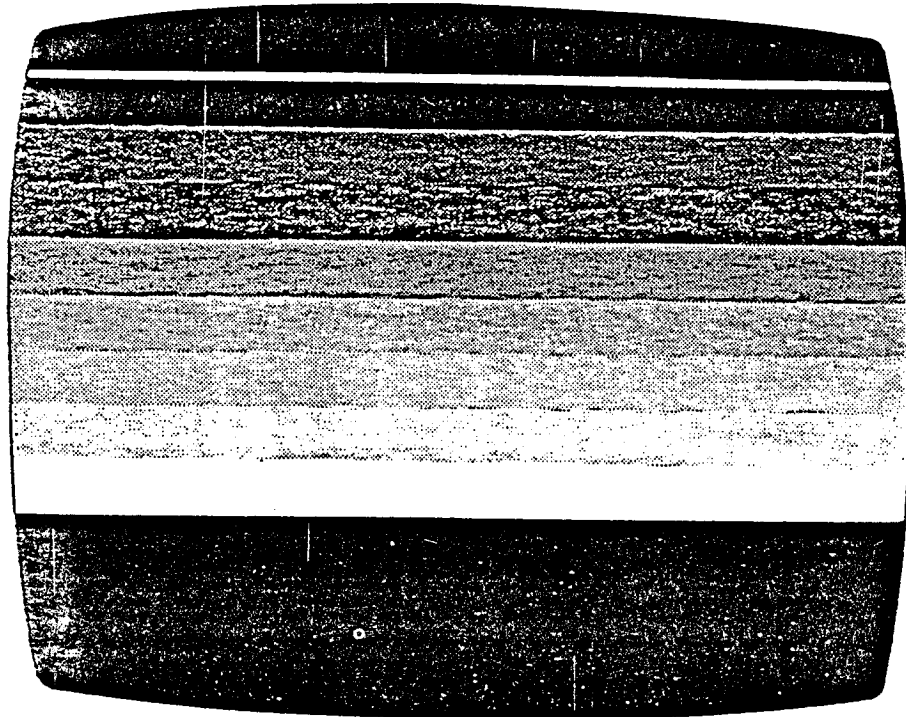

Figure 3-7. Gray Bar Screen
- Format: Short the color/black and white switch with the proper tool. Eight horizontal gray bars are displayed, going from black at the top to white at the bottom in even steps (See Figure 3-7). The screen should be steady and unchanging. The lines may have minor glitches on their edges. A thin white line always appears just over the top (black) bar. No color should appear anywhere on the screen. The areas above the top (black) bar and below the bottom (white) bar are of no importance to the test. This test should be left on for at least 60 seconds to ensure that there is no "flashing" of color or shifting of the gray bars.